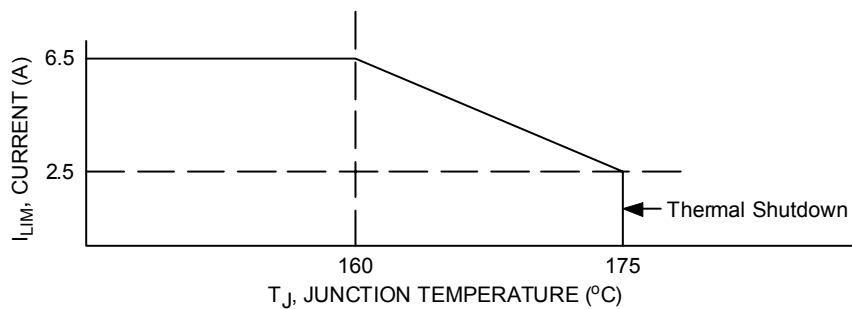
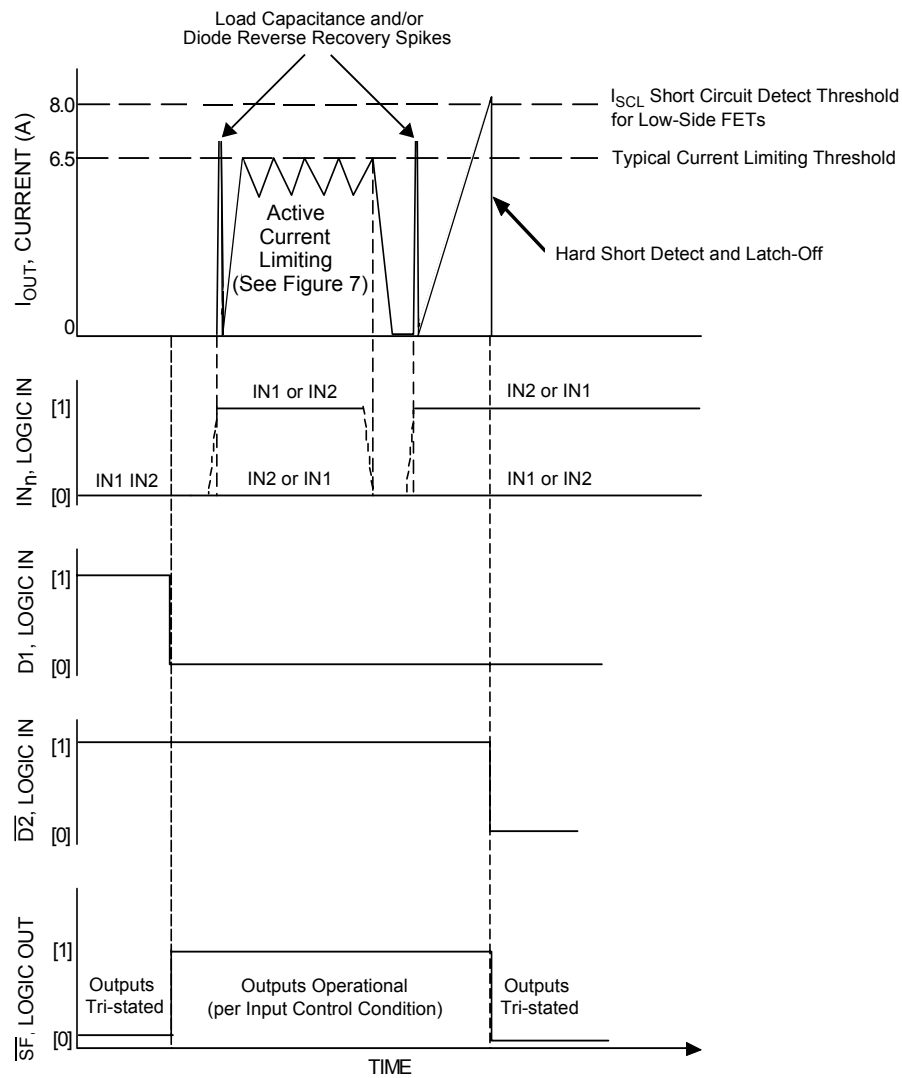

Figure 7. Active Current Limiting Versus Temperature (Typical)
Figure 8. Active Current Limiting Versus Time
26. Increasing currents will become limited at I_{LIM} . Hard shorts will breach the I_{SCH} or I_{SCL} limit, forcing the output into an immediate tri-state latch-OFF. See Figures 8 and 9, page 9. Active current limiting will cause junction temperatures to rise. A junction temperature above 160°C will cause the active current limiting to progressively “fold-back” (or decrease) to 2.5 A typical at 175°C where thermal latch-OFF will occur. See Figure 7, page 8.
The current limiting threshold value is dependent upon the device junction temperature. When $-40^\circ\text{C} < T_J < 160^\circ\text{C}$, I_{LIM} is between 5.2 A and 7.8 A. When T_J exceeds 160°C , the I_{LIM} current decreases linearly down to 2.5 A typical at 175°C . Above 175°C the device overtemperature circuit detects T_{LIM} and overtemperature shutdown occurs (see Figure 7, page 8). This feature allows the device to remain operational for a longer time but at a regressing output performance level at junction temperatures above 160°C .